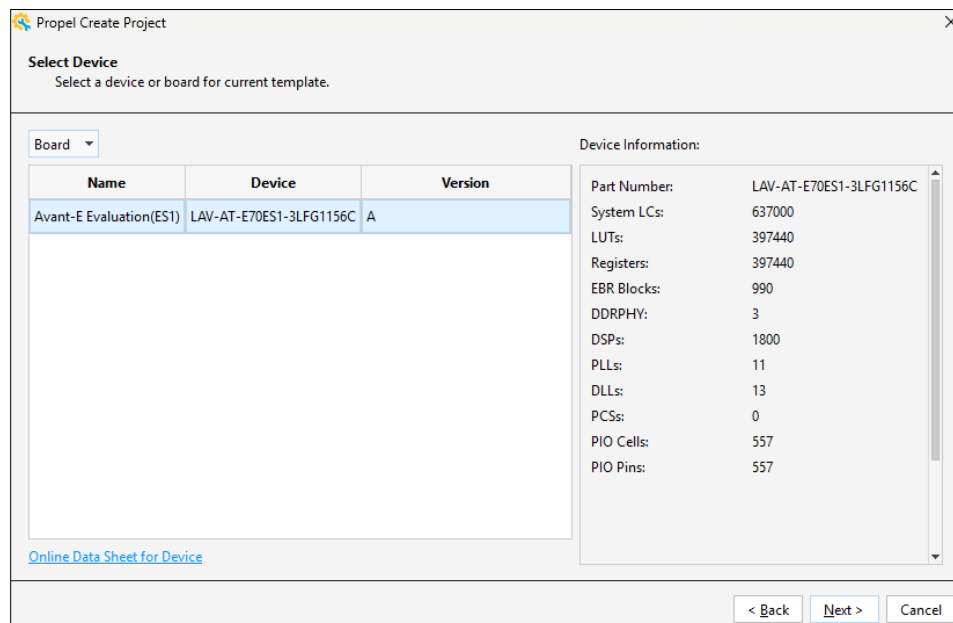

Figure 4.5. Select Target Device – Avant-E Evaluation (ES1)
- Click **Next**, then click **Finish** to complete the project setup (Figure 4.5).